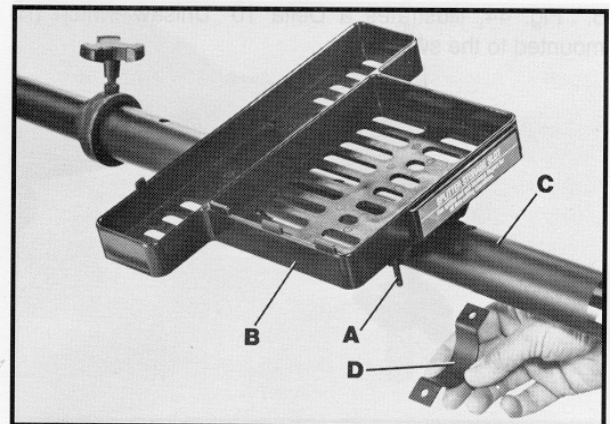

Fig. 40
1. Insert four 2 inch-long hex head screws, one of which is shown at (A) Fig. 40, through the four hex-shaped slots in the base of splitter storage basket (B).
2. Position storage basket (B) Fig. 40, over support arm (C). Assemble two clamps (D) on screws (A) from underneath support arm (C), and fasten splitter storage basket (B) to support arm (C) with four hex nuts. **NOTE:** Storage basket can be positioned anywhere along support arm.